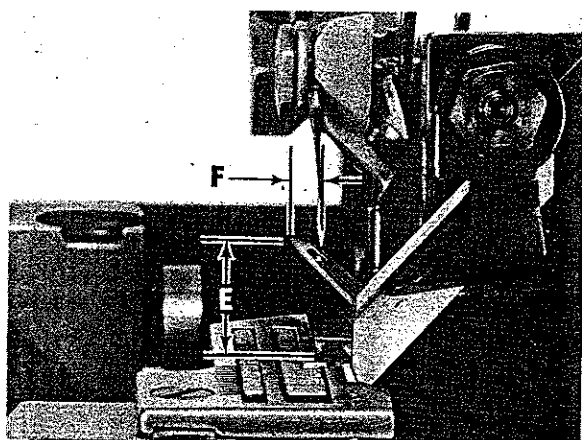

Fig. 13
| MACHINE STYLE | SHANK EXTENDED ABOVE HOLDER DIM. "D" FIG. 11 | HEIGHT ABOVE THROAT PLATE DIM. "E" FIG. 13 | POINT OF LOOPER TO CENTERLINE OF NEEDLE DIM. "F" FIG. 13 |
4. Again rotate handwheel in operating direction until the upper looper is at the extreme left end of travel. Loosen screw (C, Fig. 11) and rotate upper looper holder as required to set point of upper looper to dimension "E" Fig. 13 from top of throat plate.
5. With upper looper still positioned at the left end of travel, it may be necessary to adjust the looper holder in or out of its shaft to set point of looper to dimension "F" Fig. 13 to the left of needle and/or right needle centerline. Rotate handwheel to position upper looper to the right end of travel, then tighten screw (C, Fig. 11) and screw (A) securely.